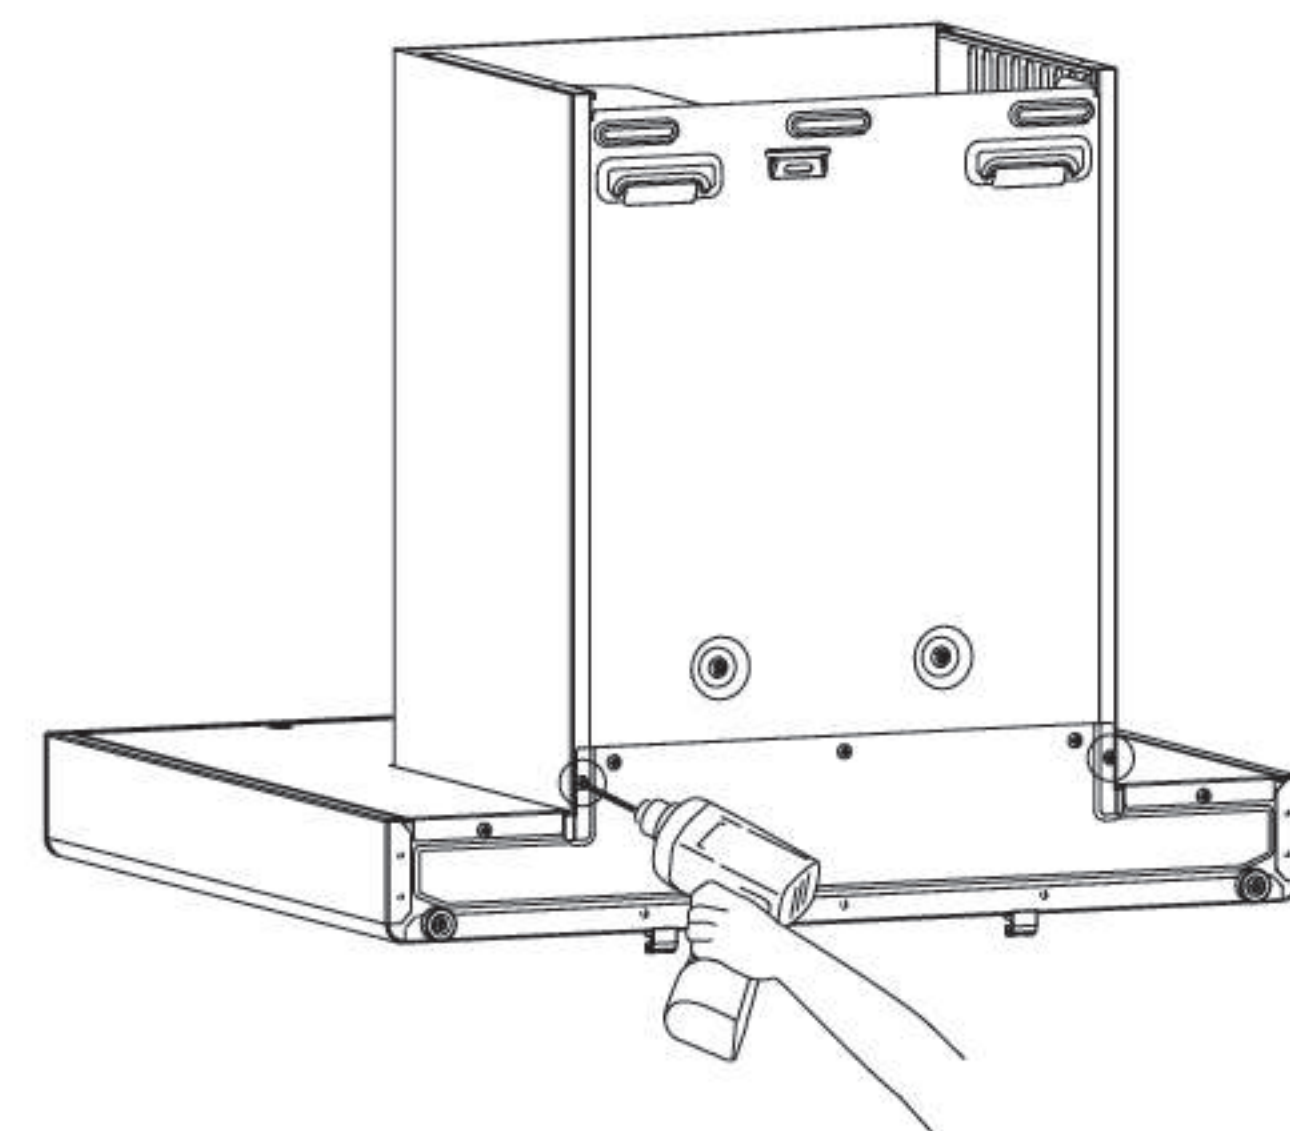

Fig.6
2. Remove the fan cover and decorative hood: remove the 2 screws that fix the fan cover behind the main body with a screwdriver(see Fig.6), and then grab the fan cover and decorative hood with both hands to take them out upward(see Fig.7);